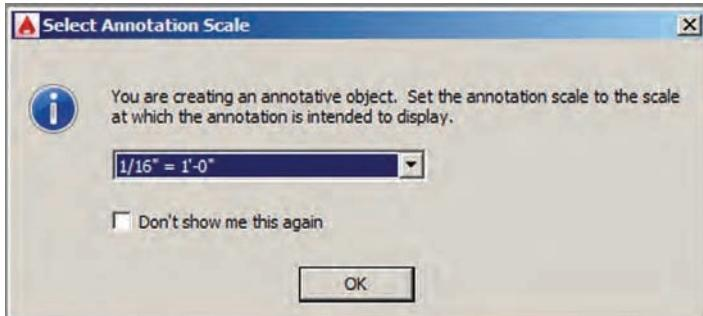

**FIGURE 13.1** Creating an annotative text style
2. Select Arial as the font name, select Annotative in the Size area, type **1/8"** (or **0.4** cm) for Paper Text Height, and type **0.9** for the Width Factor (see Figure 13.1). Click Apply and then click Close.